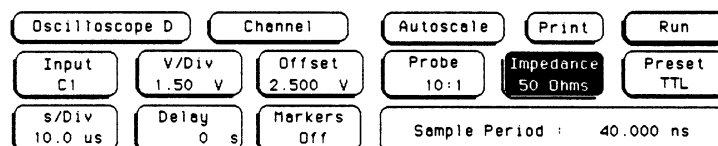

Figure 4-5. Channel Screen / Impedance Select
- Touch the **Impedance** field as shown in figure 4-5. This will switch impedance to 50 Ohms.